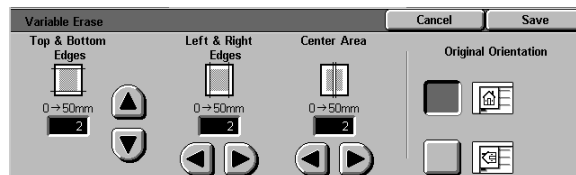

Figure 30: Variable Erase screen
- 2 Touch the **Variable Erase** button to display the Variable Erase screen, as illustrated in Figure 30.